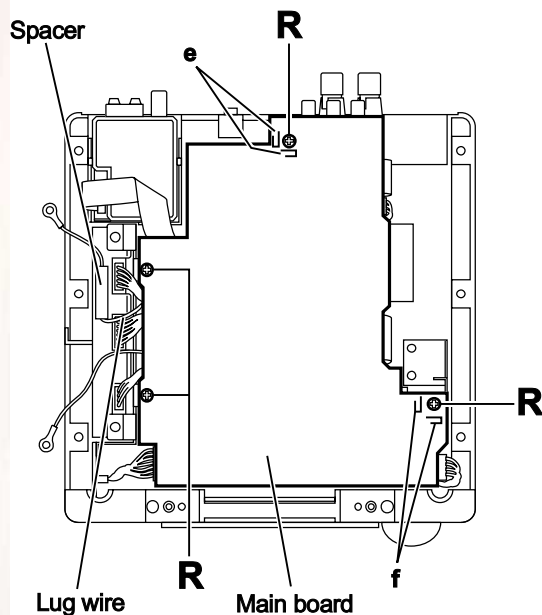

Fig.15
- (7) Remove the spacer fixing the lug wire. (See Fig.15.)
- (8) Remove the four screws **R** attaching the main board and remove the main board from the main body. (See Fig.15.)
When attaching the main board, attach the screws **R** after fitting the holes of the main board to the joints **e** and **f** of the main body. (See Fig.15.)